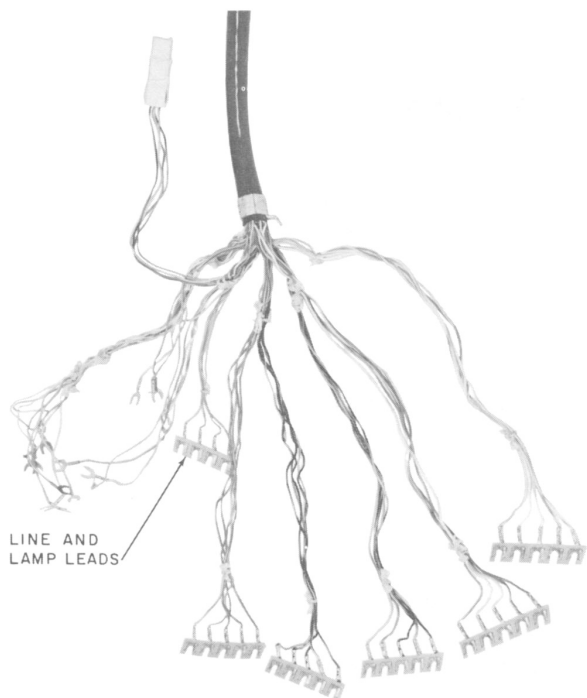

Fig. 1—Mounting Cord Used With 636A Key
2.08 Mounting cords designed for use with 636A key assemblies feature slotted wafer sections for each line appearance (Fig. 1). This allows easy arrangement of lines to pick-up buttons.